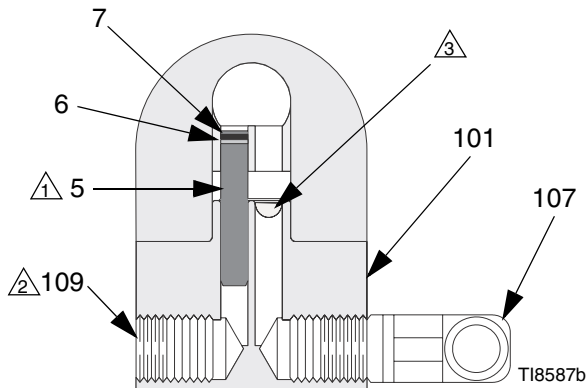

FIG. 1: Non-Circulating Setup Shown (cutaway view)
1. See FIG. 1. Apply anti-seize lubricant 222955 to the threads and mating faces of the manifold (101), plug (109), and elbow (107), supplied unassembled.
2. Install an elbow (107) in one fluid port of the manifold (101), and a plug (109) in the other port.
3. Install the internal plug (5) in the gun fluid port on the same side as the manifold plug.
4. Connect the fluid supply line to the manifold elbow (107).
5. Install the gun on the manifold, using the four screws (17). Start the threads of all four screws, and tighten the front two screws first, and then tighten the back two screws to 65 in-lb (7.3 N•m).
-  Replace with a reducing nipple (107) when used in circulating systems.